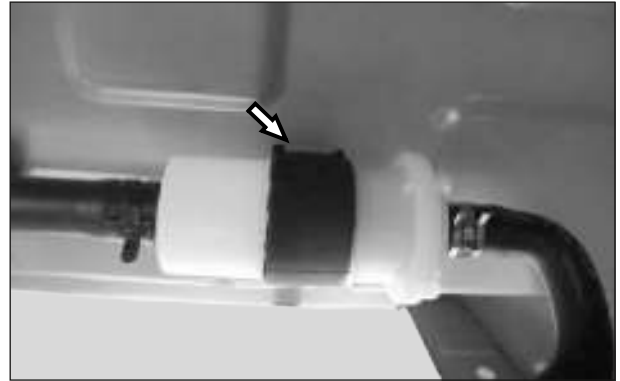

Fig. 4.40
- Unlocated the air filter SAI from passenger cabin bracket. (Fig. 4.40)